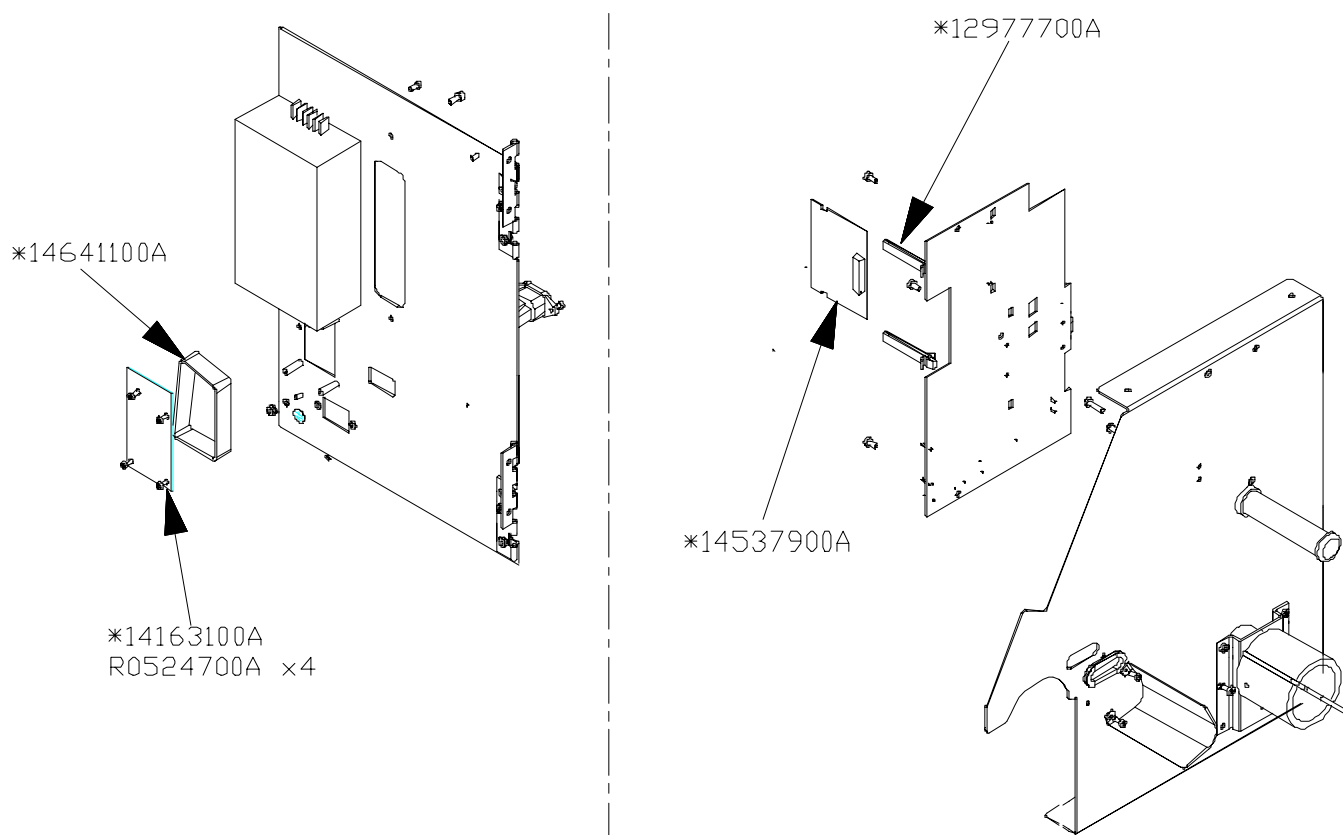

Figure 3-1 Remote Scale/Printer Interface Kit
3. Install the two card guides P/N (*) 12977700A in the Main Logic PCB, as shown in Figure 3-1.
5. Remove the plate covering the I/O access hole in the back and install (*)14641100A Shroud over the standoffs (Figure 3-1).
6. Connect the (*)14613300A I/O harness between the I/O connector PCB, P/N (*)1416100A, and the serial I/O PCB. Install the I/O connector PCB, P/N (*)1416100A, using the four R0524700A screws (Figure 3-1.)